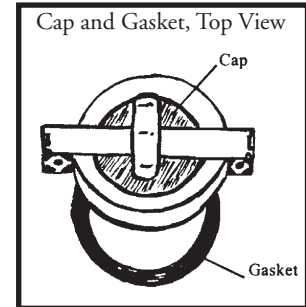

Figure 10, Fill Tube
a. The protective caps must be on tight and locked down unless actively unloading fuel into tanks. Sealing gaskets and poppet valves must be in good working condition. (Figure 10, 11, and 12)